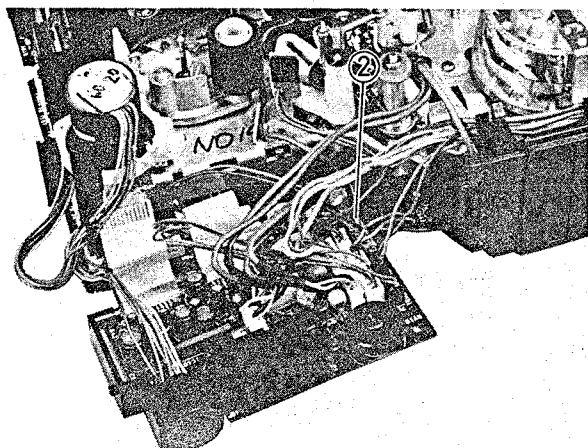

Fig. 2-80 End Lamp Removal
End Lamp Removal (Figs. 2-80, 2-81)
2. Disconnect connector CN125. (See Fig. 2-80)